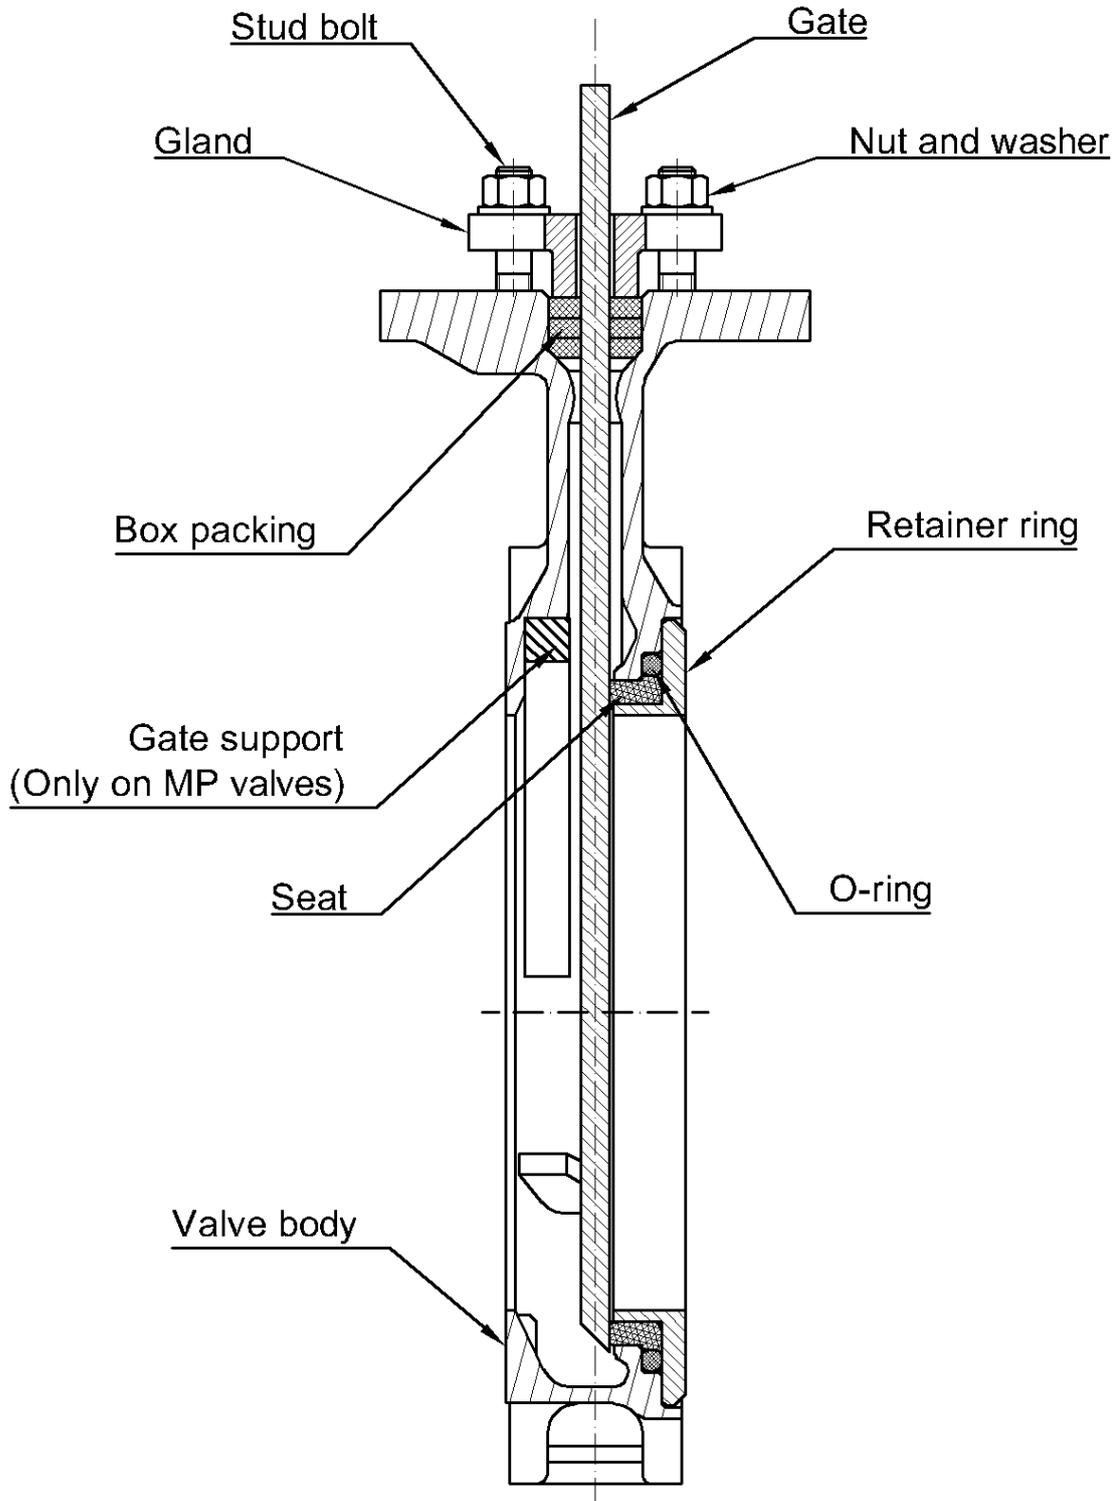

Figure 1 Main components
3. Loosen the nuts (8c) on the gland (8).
4. Lift of the gland (8) from the stud bolts (8a).
5. Remove the box packing braid (9) and if any, box bottom support (9a).
7. Check the gate (6) visually for damages such as dents and scrapes. If the gate is damaged it can wear out the box packing (9) and the seat (13), causing leakage. Staffsjö recommends changing the gate if it is damaged to ensure the function of the valve.
8. If any, check that the guide pads/gate support (14) in the valve body are not worn out and in place.
9. If any, check the box bottom support (9a) for damages. If the box bottom (9a) is damaged Staffsjö recommends changing it. Place the box bottom (9a), in the valve body (10).
10. Check that the gate chamfer is set against the cams in the bottom of the valve body, see figure 1.
11. Begin assembling the first braid (9) on one of the long sides of the gate (6). Use a blunt tool in plastic or wood and a hammer to push the braid into the box. Where the braid ends meet, check that the short ends are opposite each other, not on top of each other. It is important to push the first braid evenly into the bottom of the box. The joint of next braid must be placed on the opposite long side of the joint of the previous braid.
12. Place the gland (8) on the stud bolts (8a).
14. Put force on the gland (8) by tightening the nuts (8c) gradually and crosswise. The box packing must be equally compressed all around. Recommended torque for gland nuts, see chapter D.
15. The gland (8) must put uniform force on the box packing (9) and be in level with the top of the valve body (10).
16. The gland (8) must also be in line with the gate (6) with the same distance between the gland and the gate all around. Check that there is no metal contact between the gland (8) and the gate (6).